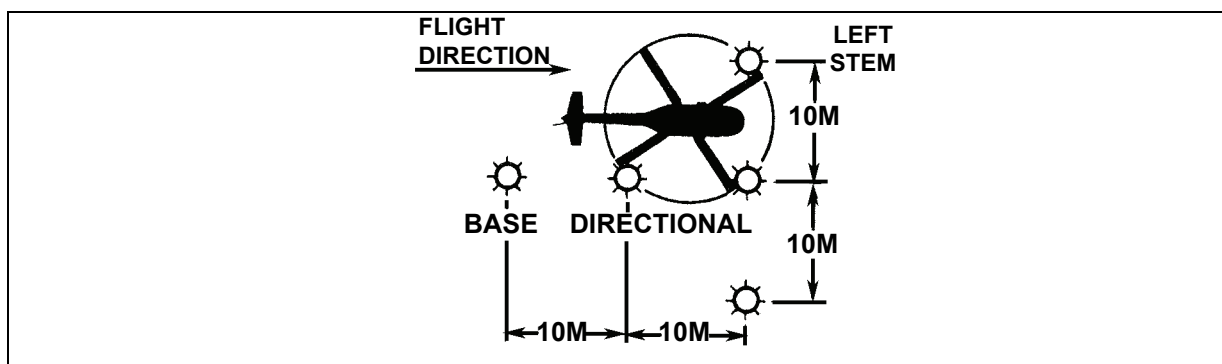

Figure 4-12. "T" Light Formation
- **The "T" Light Formation.** The "T" light formation is set up using five lights placed according to Figure 4-12. The cargo is positioned 5 meters to the left of the base light and midway between the base light and stem light. The lead aircraft lands to the left of the base light and just short of the stem lights.